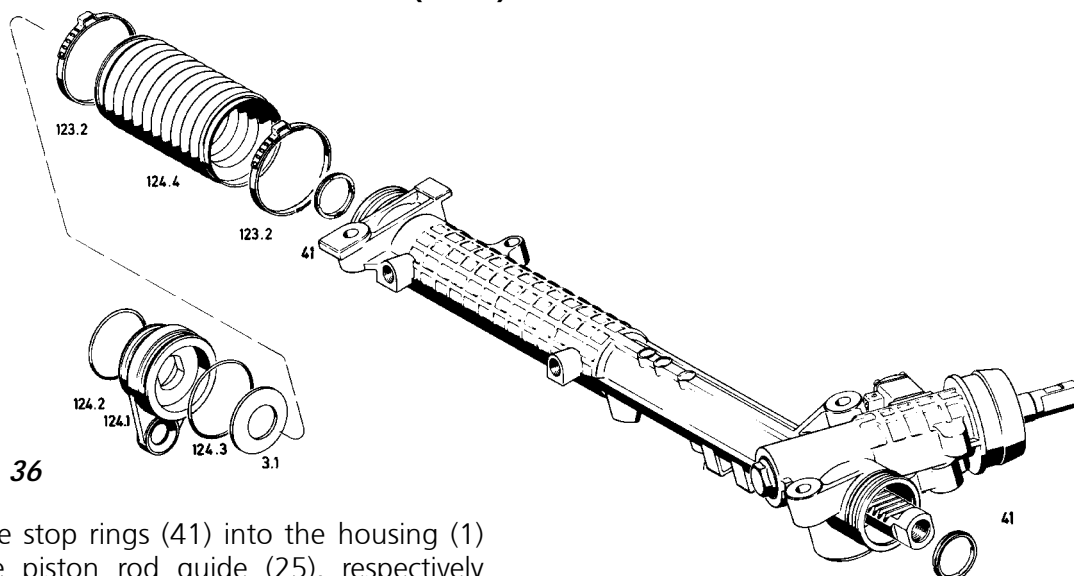

Fig. 36
Press the stop rings (41) into the housing (1) and the piston rod guide (25), respectively (Fig. 36).